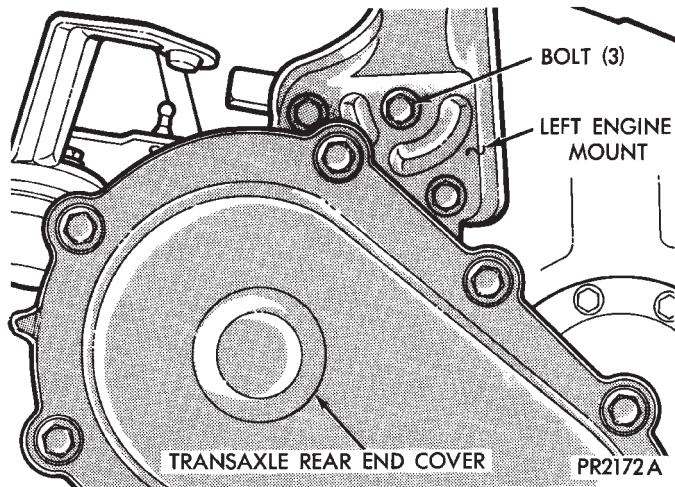

Fig. 10 Remove Left Transmission Mount
(16) With transmission jack in position, remove the left transmission mount (Fig. 10).
(17) Carefully lower the transaxle assembly from vehicle.